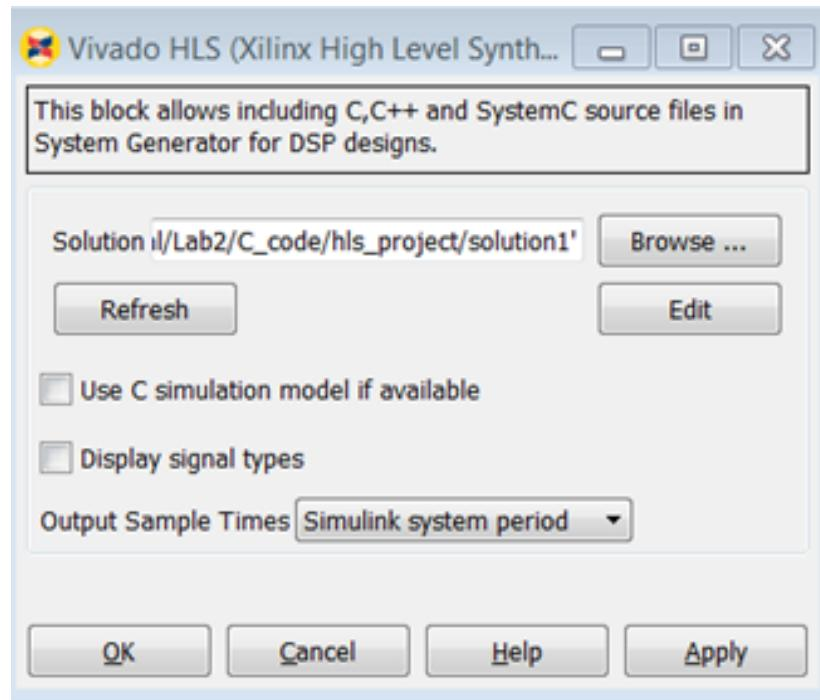

Figure 65: Importing Vivado HLS IP
- Use the **Browse** button to select the solution created by Vivado HLS in Step 1, at `C:/SysGen_Tutorial/Lab2/C_code/hls_project/solution1`, as shown in Figure 65: Importing Vivado HLS IP.